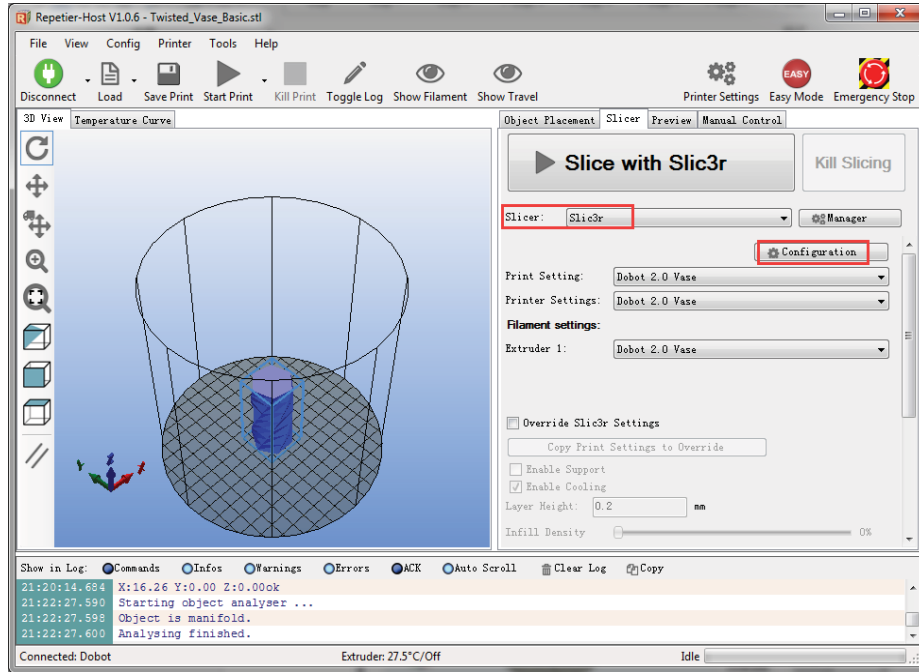

Figure 5.138 Select slicer
3. Select **Slic3r** from **Slicer** on the **Slicer** tab of the **Repetier Host** page, and click **Configuration**, as shown in Figure 5.138.